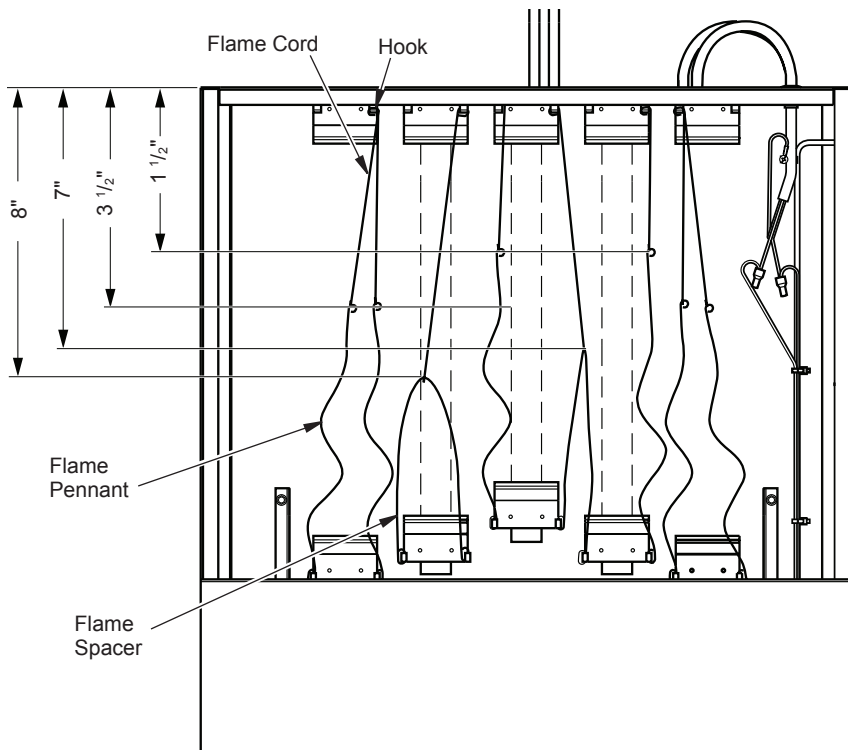

Figure 38 - Locating Flame Pennants
1. Locate affected flame pennant. Slip hem at base of flame pennant over proper hanger bracket position. See Figure 38, page 19, for proper location.